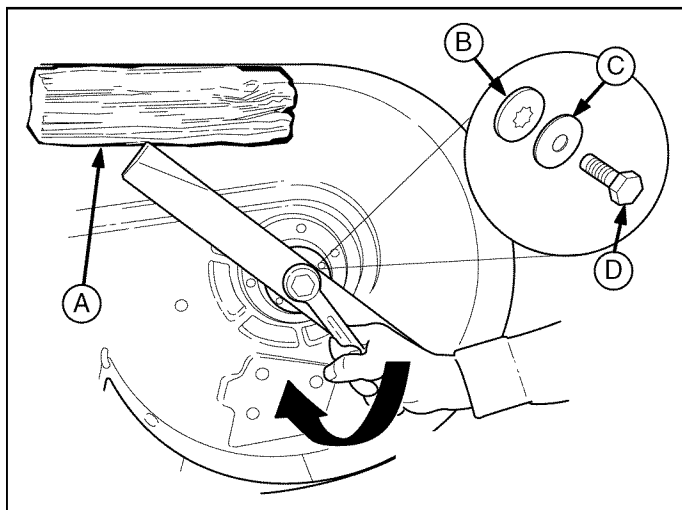

Figure 31. Blade Installation - 54" Mowers
54" Mowers: Remove the capscrew (D, Figure 31), spring washer (C), spline washer (B), and blade.
54" Mowers: Reinstall the spline washer (B, Figure 31), spring washer (C) and capscrew (D). Use a wooden block (A) to prevent blade rotation while tightening the capscrew (D) to 61-75 N.m (45-55 ft. lbs.).